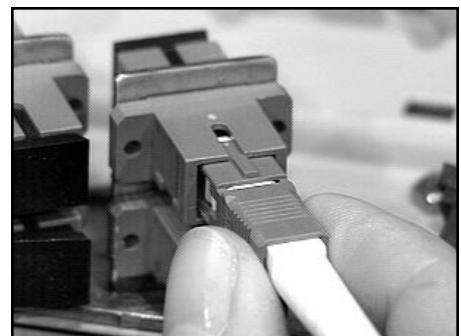

Fig. 14
A. Hold the connector by the housing. Align the key on the connector housing with the slot of the coupling (Fig. 14) and push into place with a positive click. (The white line or slot in the housing will not be visible when fully latched).